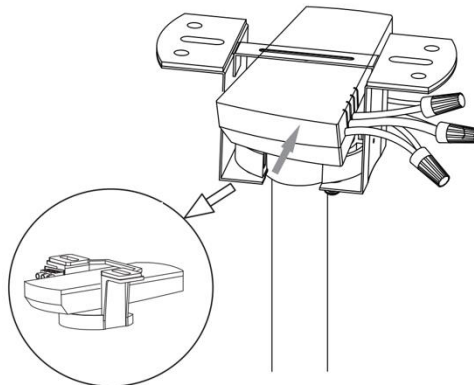

Fig. 10
12. Carefully insert the Remote Receiver above the hanger ball in the remainder spacing in the mounting bracket. Take care not to damage or loosen any of the wiring. (Fig. 10)